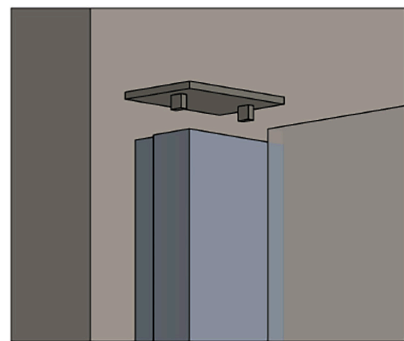
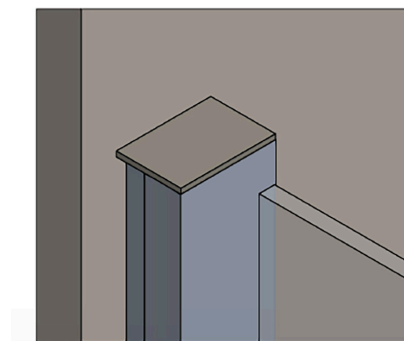

FIGURE 26A
FIGURE 26B
The Adjustable Post Cap (N) covers the exposed top of the Wall Jamb (A) and Hinge Jamb (B). Set the cap in place BACKWARDS (only to mark it for cutting) with the legs going in Hinge Jamb (B) (See Figure 26A) and mark for cutting (See Figure 26B).